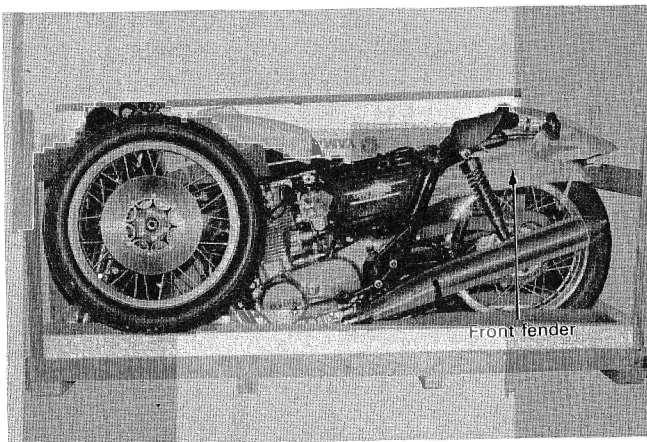

Fig. 5
1. Take out the front fender which is placed between the rear wheel and the rear fender, and take out the seat and front wheel which are placed on each side of the front forks. (Fig. 5)